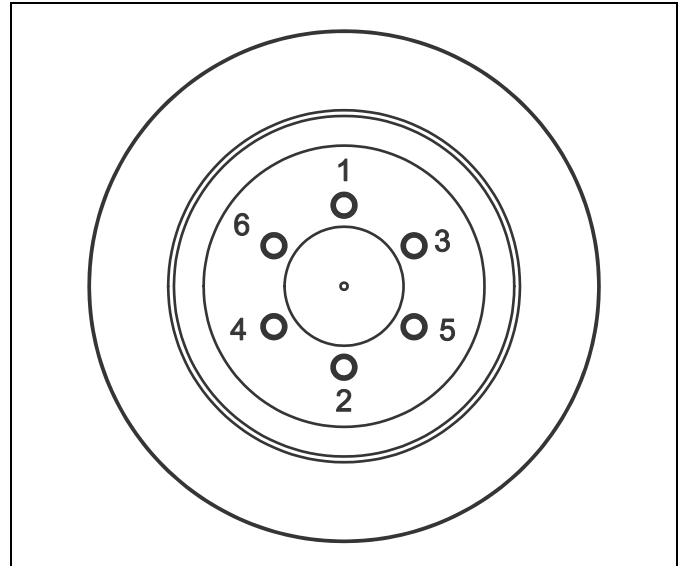

Figure 3-20: Tire Tightening Sequence
7. When installing the new wheel, tighten and torque the six lug nuts in a staggering fashion, following the numbering pattern (See Figure 3-20).